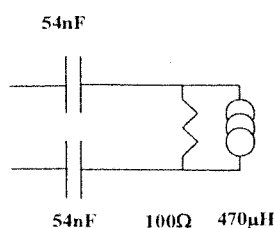

Fig.1
2- ZHP-r as shown in figure 1
- 2- ZHP-r as shown in figure 1